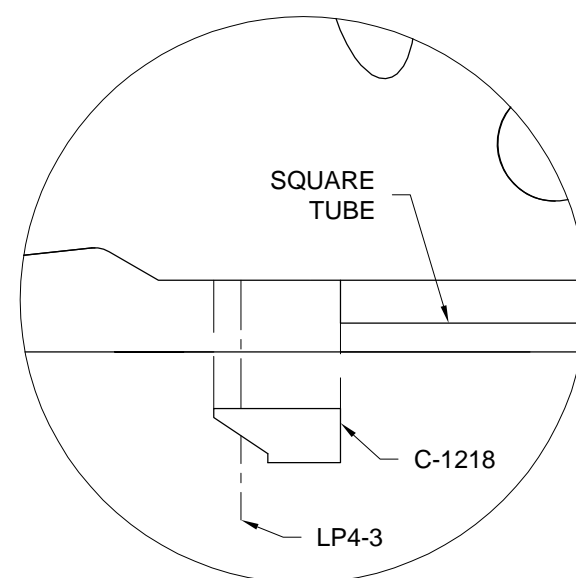

FIGURE 3: INSTALL EXTENSION
Step 3 (EARLY PRODUCTION FRAME): Clamp the C-1218 Extension into position. See Figure 3.
Rivet the extension to the canopy frame using the hardware called out in Figure 3.